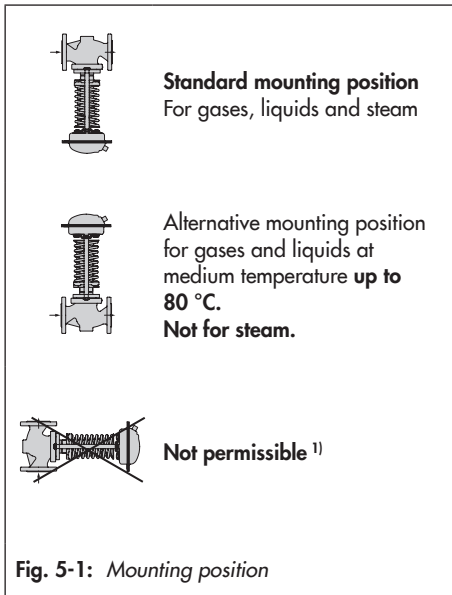

Fig. 5-1: Mounting position
- Install the actuator housing with the set point springs suspended downward in horizontal pipelines (see Fig. 5-1).